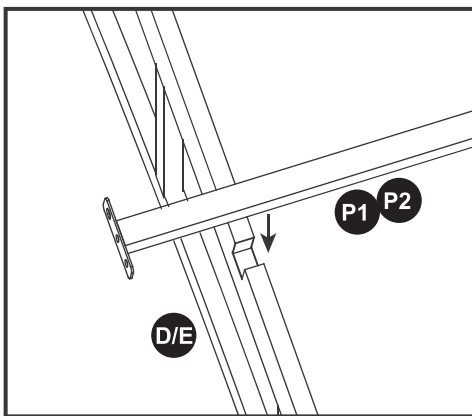

Fig.18
13.1 Place one end of the Strut (P1/P2) into the notch in the Slant beam (D/E), attach the other end onto the Long raingutter (G) with a Bolt and Washer (AA/DD). See Fig.18- Fig.19. Repeat for all Struts (P1/P2)